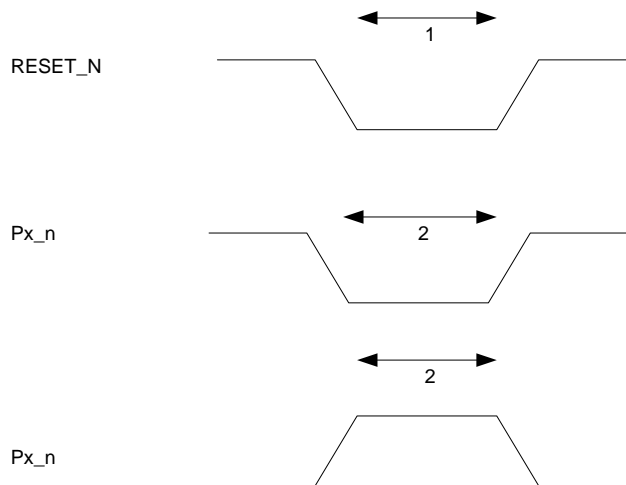

Figure 4: Control Inputs AC Characteristics
| RESET_N low width | 250 | | | ns | See item 1, Figure 4. This is the shortest pulse that is guaranteed to be recognized as a reset pin request. Note: Shorter pulses may be recognized but will not lead to complete reset of all modules within the chip. |
| Interrupt pulse width | t _{SYCLK} | | | | See item 2, Figure 4. This is the shortest pulse that is guaranteed to be recognized as an interrupt request. In PM2/3 the internal synchronizers are bypassed so this requirement does not apply in PM2/3. |